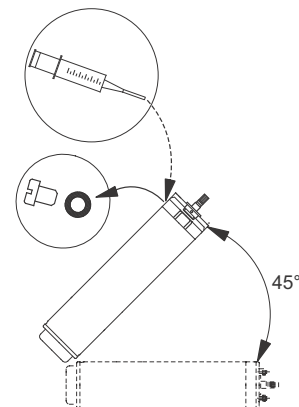

Fig. 4 Motor position during filling - MS6000
- If the motor is delivered from stock, the liquid level must be checked before the motor is installed. See fig. 4.
- In the case of service, the liquid level must be checked. See fig. 4.
1. Position the submersible motor as shown in fig. 4. The filling screw must be at the highest point of the motor.
3. Inject liquid into the motor with the filling syringe (fig. 4) until the liquid runs back out of the filling hole.